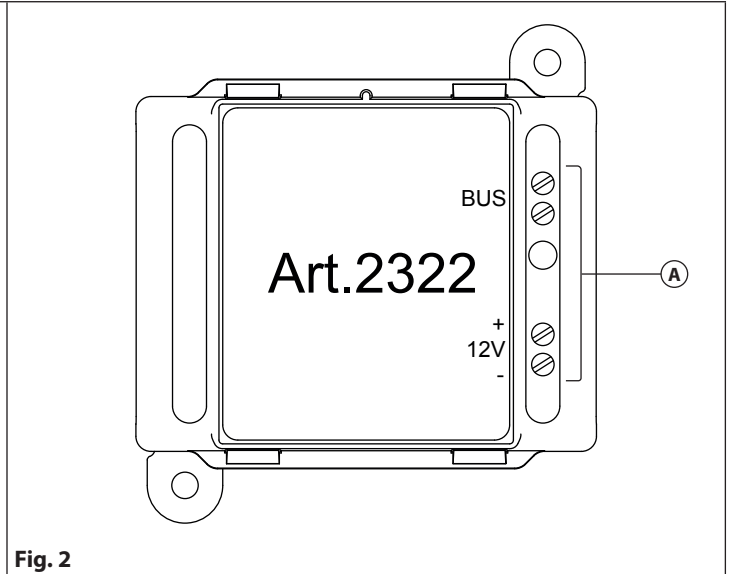

Fig. 2
- Pull outwards the left part of the cover as shown in Fig. 2. **Don't pull the cover straight.**